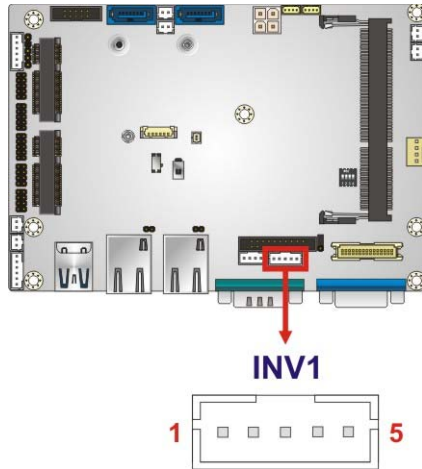

Figure 3-14: LVDS Backlight Control Connector Location
- CN Location:** See **Figure 3-14**